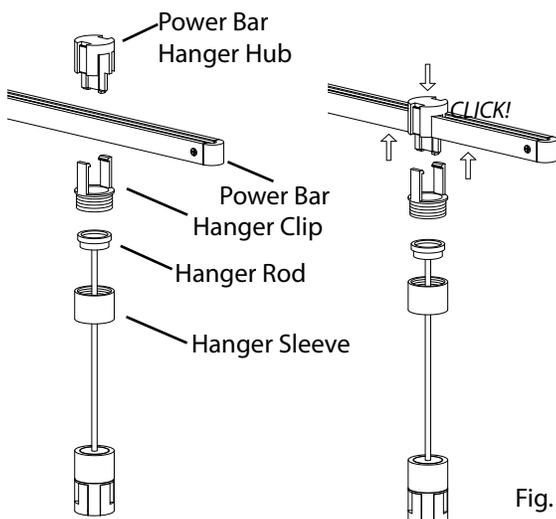

Fig. 8
1. Press down firmly on the top of the **Power Bar Hanger Hub** while pressing up on the bottom of the **Power Bar**, until the Power Bar Hanger Hub clicks into place (Fig. 8).